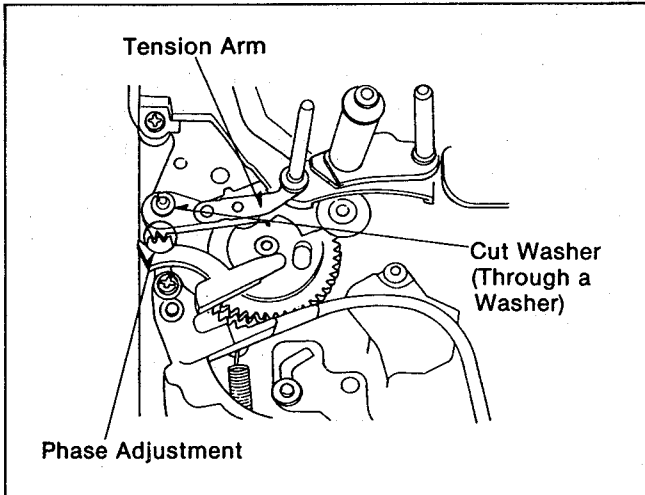

Fig. M37
- (2). Set the Tension Spring in the Lock Base Unit.
- (3). Insert the Washer and then install the Tension Arm so that make sure of phase between the Tension Arm and Tension Band as shown in Fig. M37.